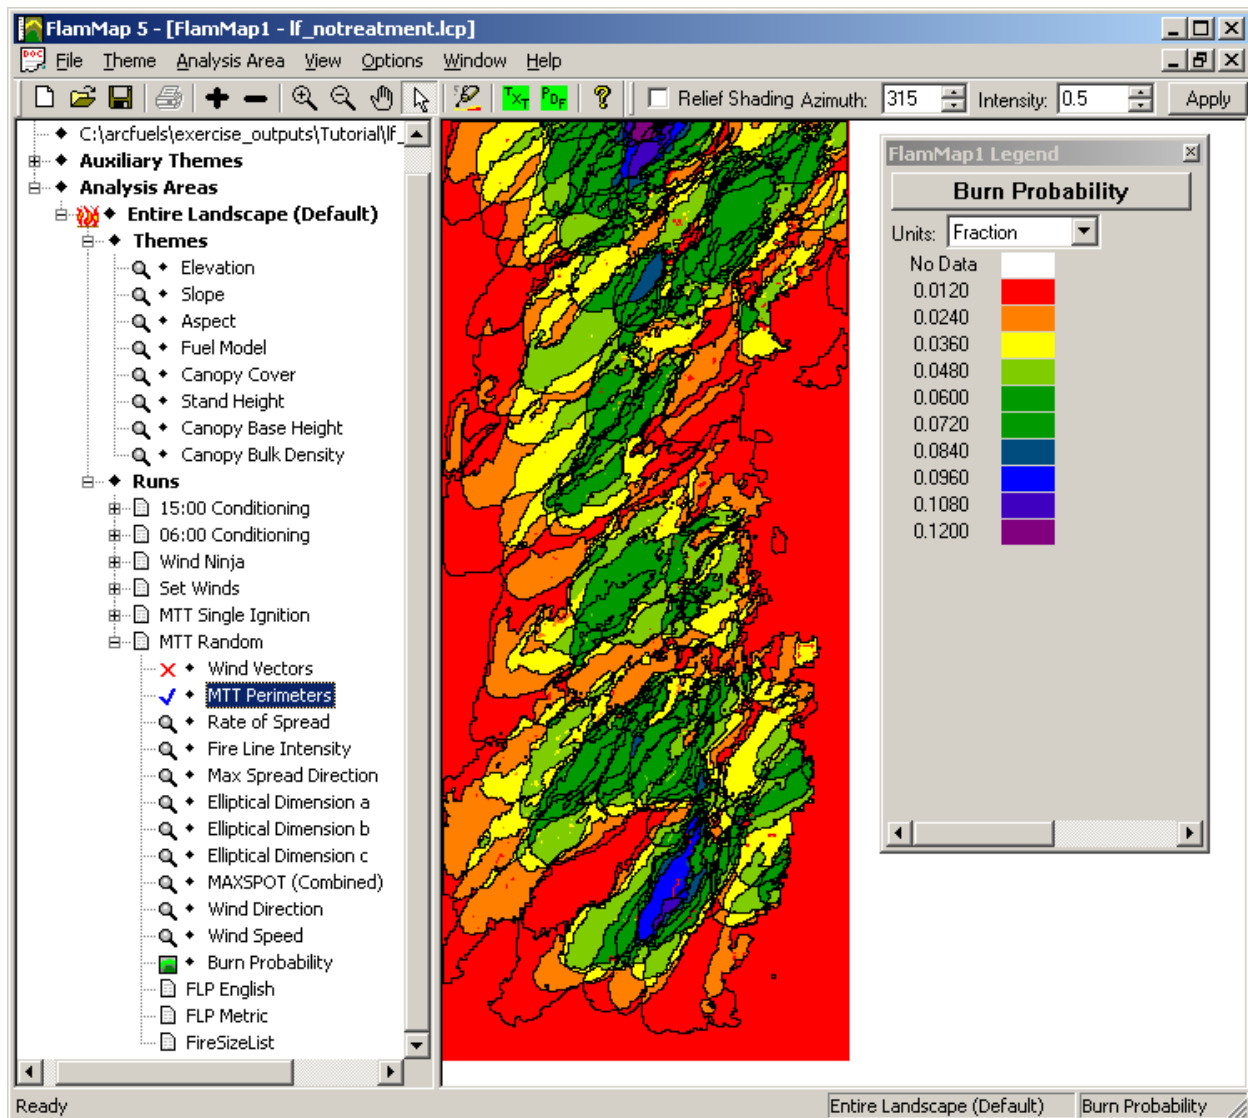

Figure 4-50—MTT Perimeters
- 4) Under the Runs section, expand the MTT Random run in the tree pane (fig. 4-50). Show the MTT Perimeters over the Burn Probability theme. Change the properties of each to make the map more informative and easier to see. In figure 4-50 the MTT Perimeters were changed to black 1 pt lines, and the Burn Probability color ramp was changed to the rainbow option.